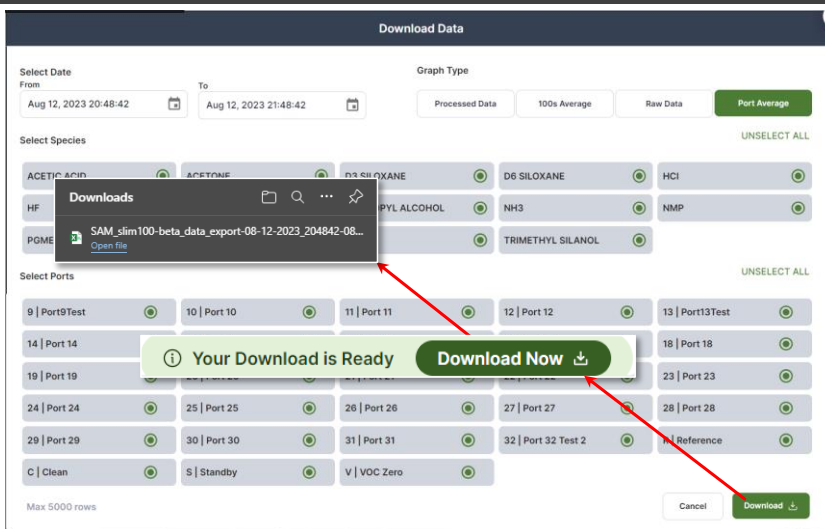

Figure 15: Data Download Dialog
- Download:** Selecting this icon (upper right corner of Monitor window) will open the **Download Data** dialog shown below in Figure 15. The user can select any or all species, any or all ports, graph type, and time range.